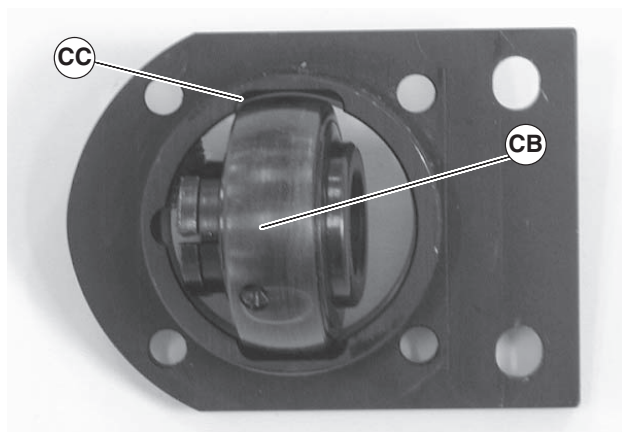

Figure 62
1. Turn bearing (Figure 62, item CB) to align with slots (CC) in bearing housing. Then remove bearing.